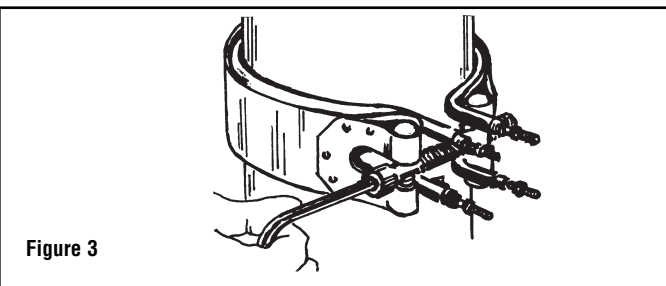

Figure 3
3. Turn Allen head bolt with 1/4" Allen wrench to draw heater band tight on cylinder. Ensure that there is good contact between heating element and cylinder. (See Figure 3)